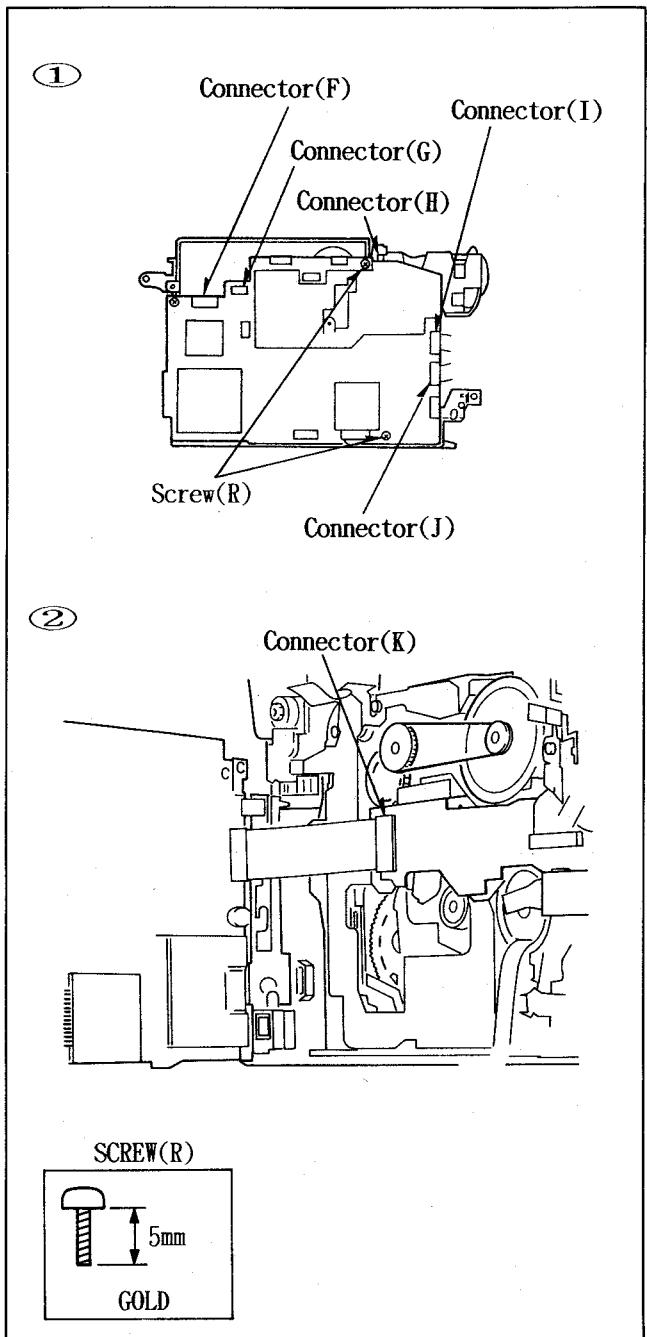

Fig. D7
(See Fig. D7 ①)
- (1). Remove.....2 Screws(R)
- (2). Connector....Connector(F), (G), (H), (I)and (J).
(See Fig. D7 ②)
- (3). Connector....Connector(K).